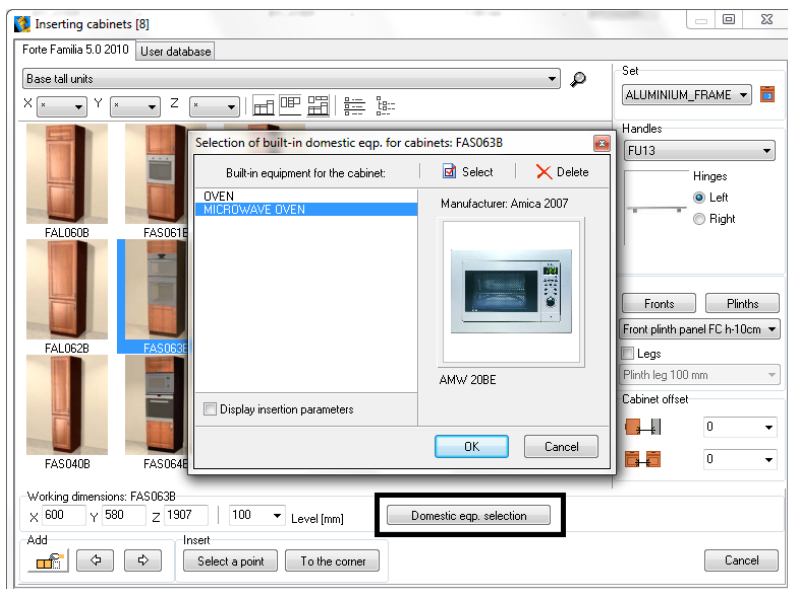

Fig. 152 – selection of household appliances for the cabinet
Some of the cabinets are designed to be used with the household equipment. Each such cabinet has a special marking to inform you what type of equipment it is designed for (e.g. ZLEW – for sink, PIEKARNIK – for oven), and a special button **Domestic eqp. selection** will appear (Fig. 152). When you click it, a new window will open – **Selection of built-in equipment for cabinets**, in which you can access a list of devices available for this type of cabinet (Fig. 152). In tall cabinets it may be possible to insert more than one model of household equipment (e.g. oven and microwave).
- click the **Domestic eqp. selection** button and then press the **Select** button in the equipment management window (Fig. 152 on the previous page) to go to the **Household equipment** module;